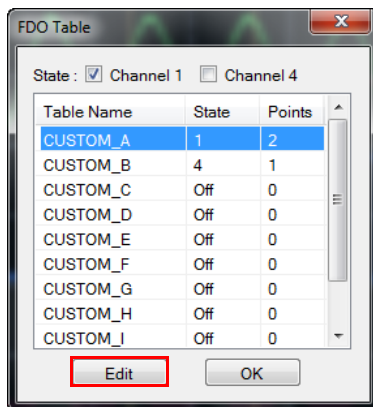

Figure 2-72 Edit button
- 4 To display the custom FDO table data dialog, select the desired custom FDO table name, and select **Edit** as shown in Figure 2-72, or double-click or double-touch the desired custom FDO table name.